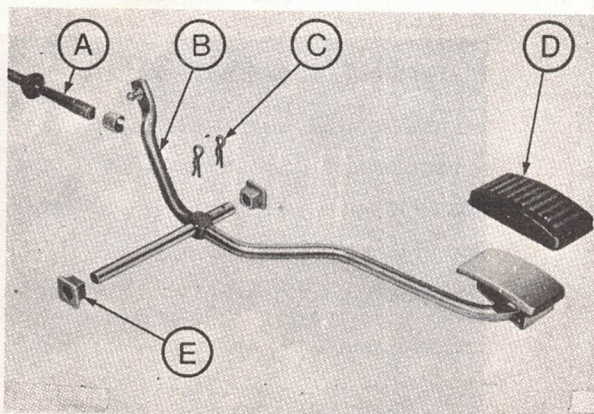

Fig. 7. Pedal shaft assembly (RHD).
4. Pull out right hand retaining clip 'C' in Fig. 7. remove left hand mounting bush 'E', and detach shaft.